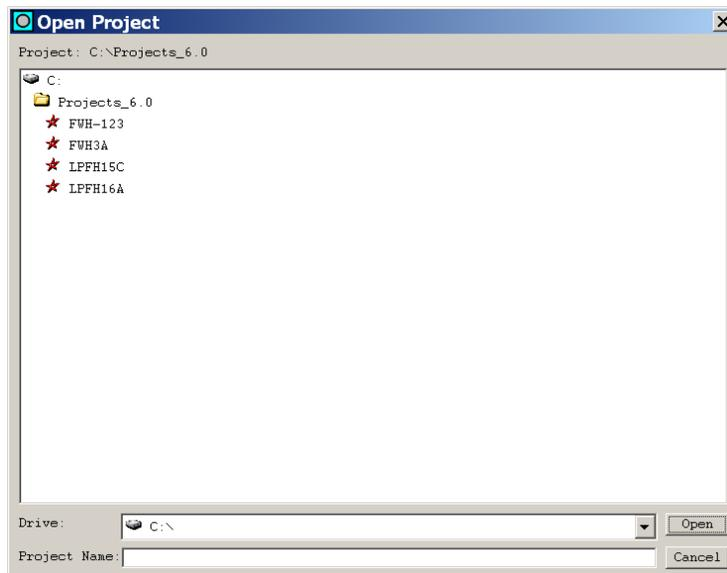

Figure 4. Open Project Dialog
- o **File | Open Project** (Ctrl+O) displays the **Open Project** dialog shown in Figure 4. Simply select the desired project file from those listed and click the **Open** button. Alternatively, you may simply double-click a file name as with any other Windows program. Afterwards, the program opens the project and displays the *project.cmp* file in the working area of the main window.